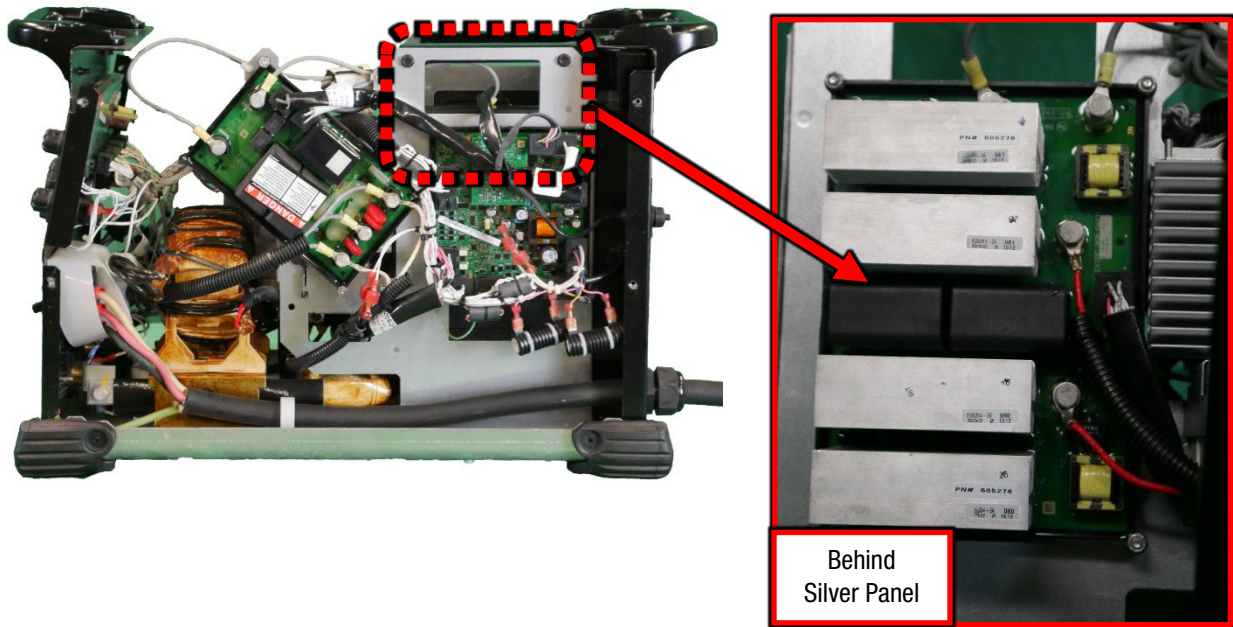

Figure F.1
1. For location of the Switch Board refer to Figure F.1.